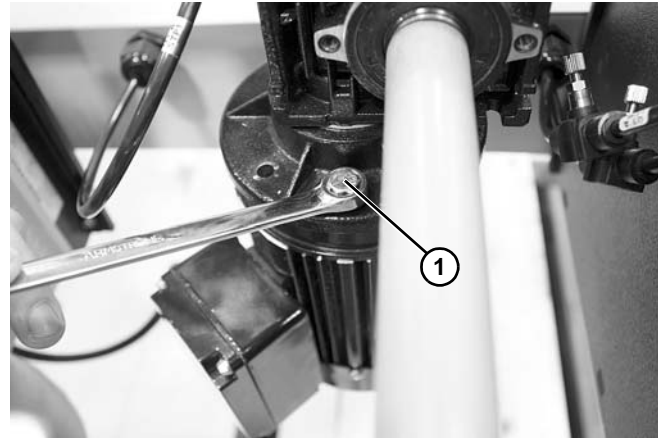

Figure 28
2. If the shaft of the motor is seized in the gear reducer, install hex flange screws (Figure 28, item 1) into the threaded holes of the gear reducer. Turn screws evenly clockwise to free motor from gear reducer.